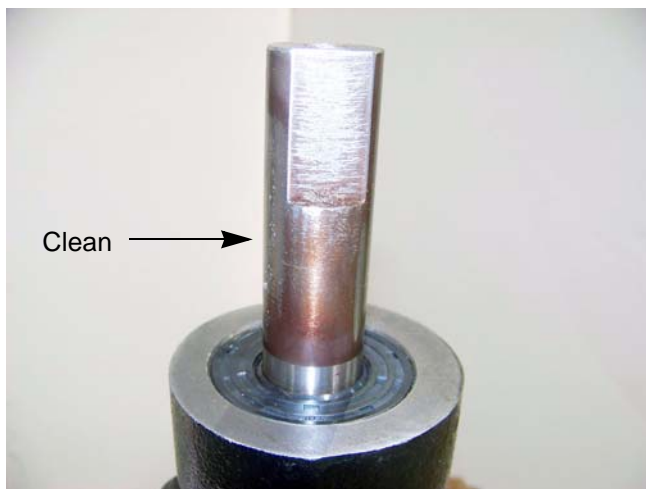

Figure 5.42
17. Clean the smooth exposed surface of the axles with fine emery cloth. See Figure 5.42.